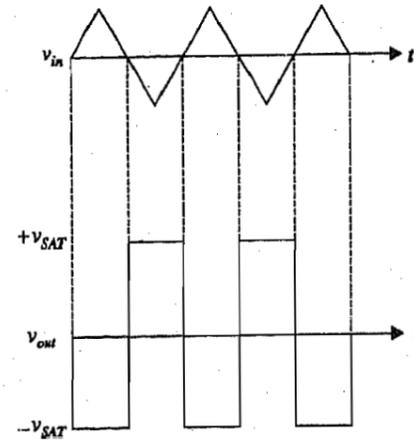

Fig.7.18
9. The output **waveform** is as shown in Fig.7.18.